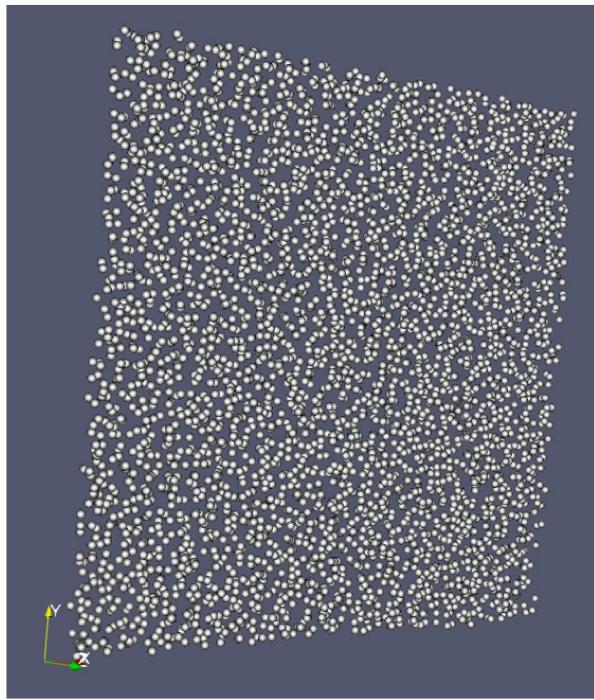

Fig. 14.3: : Particle image generated with ParaView
4. Change the Gaussian Radius if you like. You can scroll through the frames with the VCR-like controls at the top, as shown in Fig. 14.3.